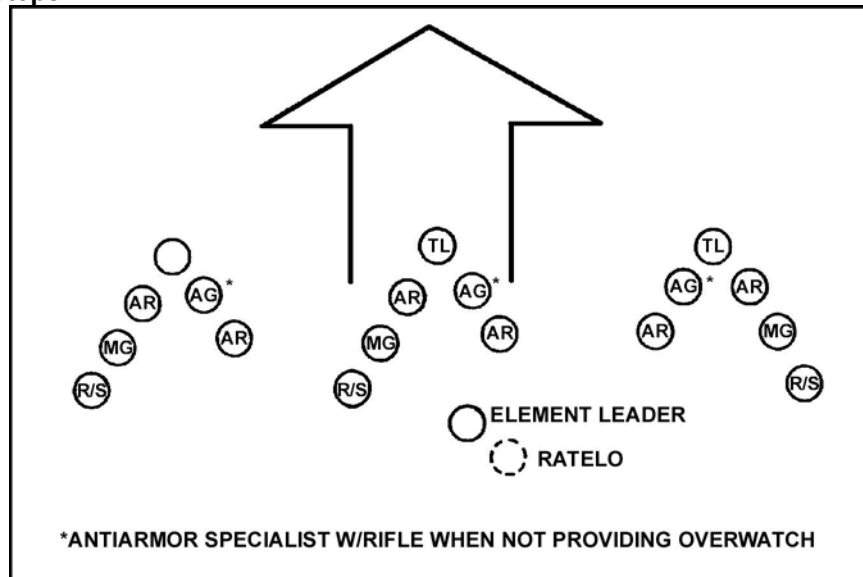

Figure 2. Dismount element line.
- b. Select the dismount element line to assault an objective and designate the base fire team (Figure 2). In this formation, the dismount element can deliver maximum fire to the front but little to the flanks.